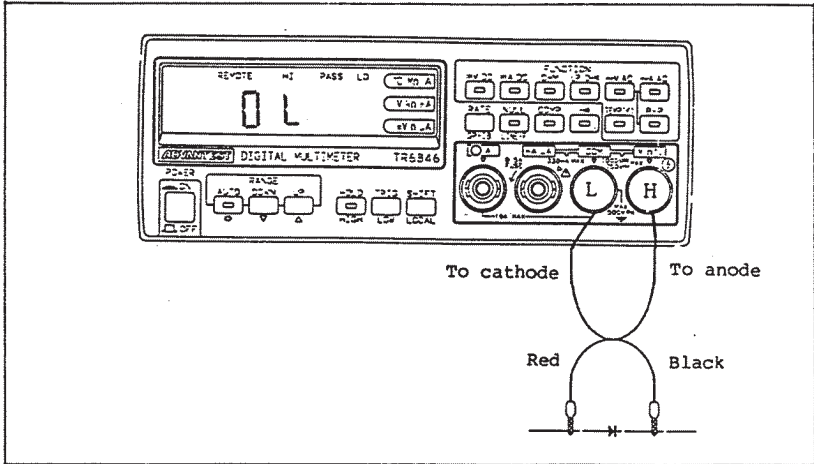

Figure 4-8 Measurement of Reverse Voltage of Diode
- Step ⑤ Reverse the connection of input cable and diode, as shown in Figure 4-8. The diode can be judged as normal if over load is displayed and no flow of reverse current is confirmed.